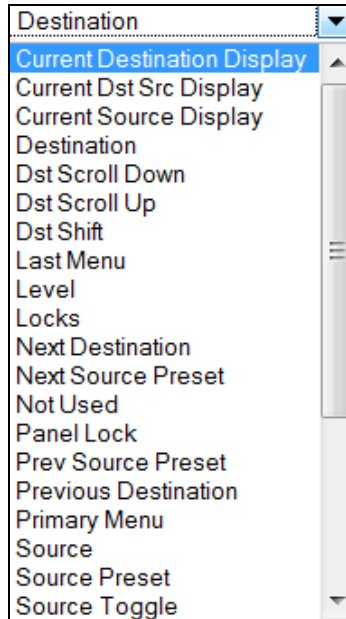

Figure 5-7: Type Drop Down Menu
- The user can assign a function to each button on the control panel by selecting the button on the interface and then using the **Type** drop down menu in the *Key Settings* window to select an item from the list. The drop down menu provides various functions to choose from as shown in Figure 5-7 and described in Table 5-1.